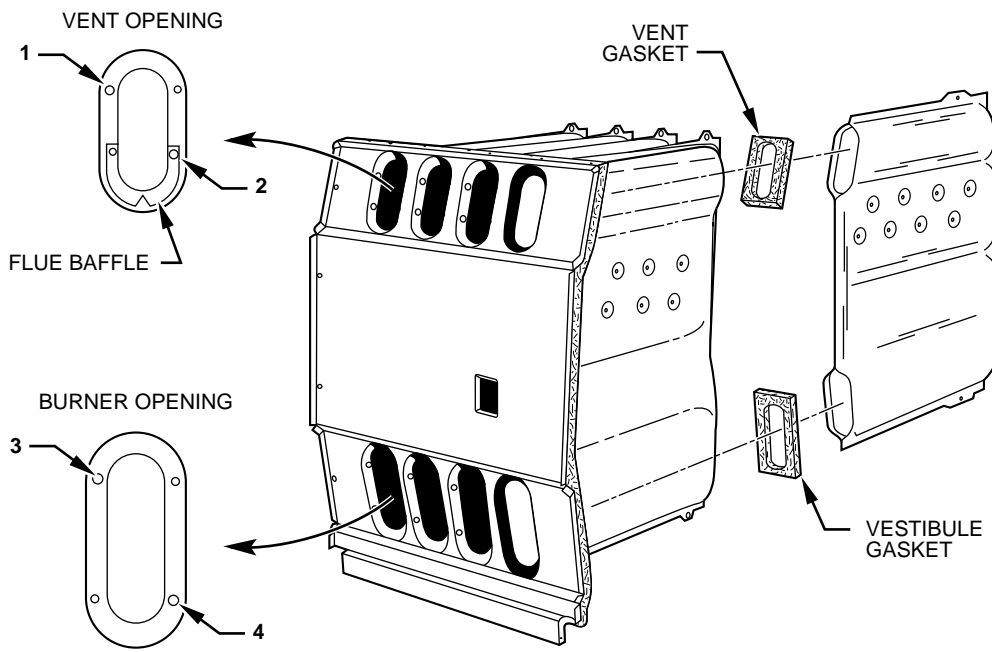

Fig. 2
10. Refer to Fig. 2 and start screws 1, 3, and 4. Do NOT tighten screws.
4. Insert flue baffles and start screws 1, 2, 3, and 4 as shown in Fig. 2.